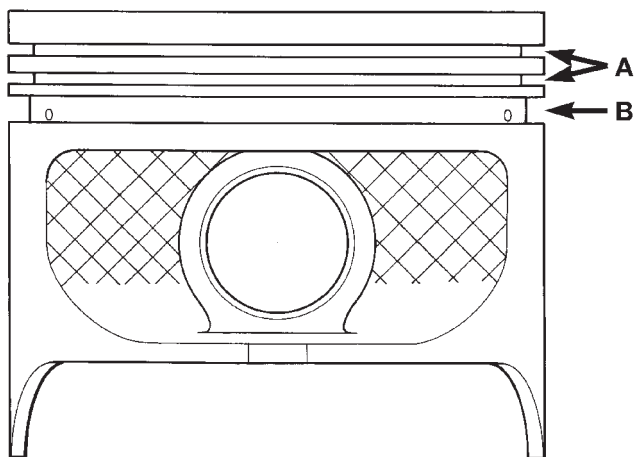
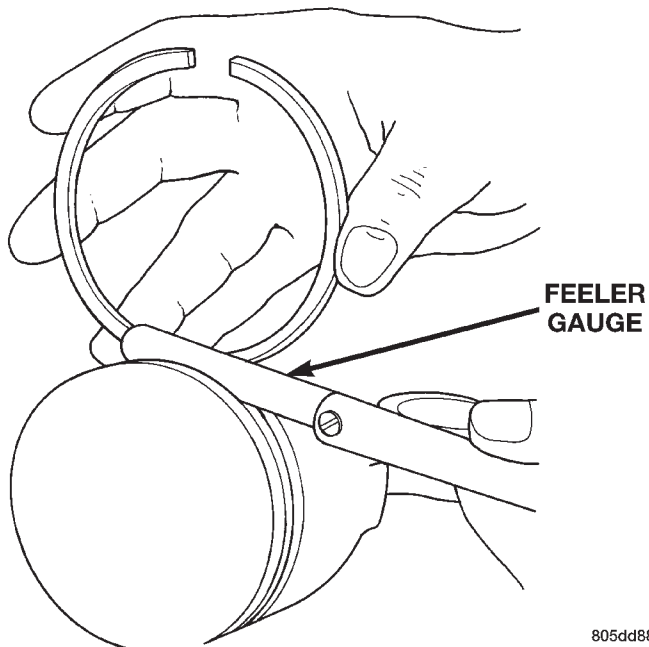

Fig. 5 Piston Dimensions
Fig. 6 Ring Side Clearance Measurement
(1) Carefully clean the carbon from all ring grooves. Oil drain openings in the oil ring groove and pin boss must be clear. **DO NOT** remove metal from the grooves or lands. This will change ring-to-groove clearances and will damage the ring-to-land seating.
(2) Be sure the piston ring grooves are free of nicks and burrs.
(3) Measure the ring side clearance with a feeler gauge fitted snugly between the ring land and ring (Fig. 5) (Fig. 6). Rotate the ring in the groove. It must move freely around circumference of the groove.